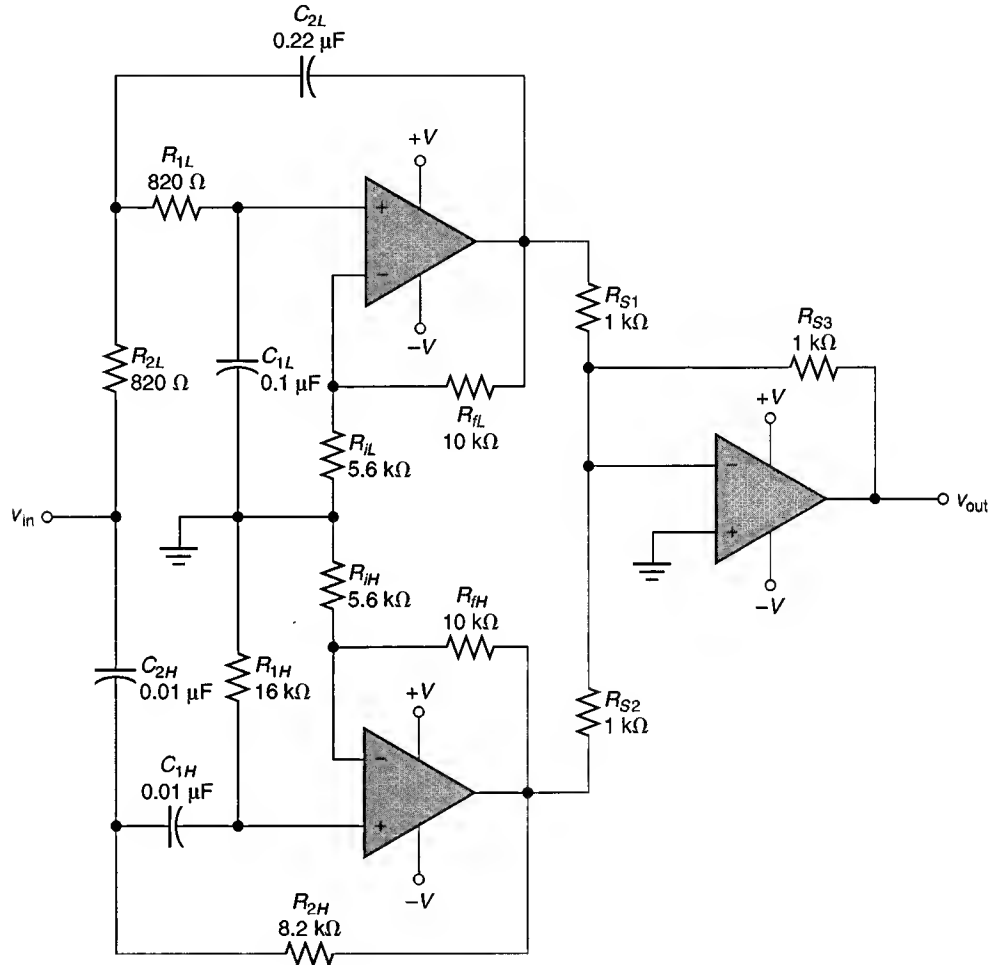

FIGURE 17.54
23. Calculate the values of f_{C1} , f_{C2} , bandwidth, geometric center frequency, and Q for the notch filter in Figure 17.54.